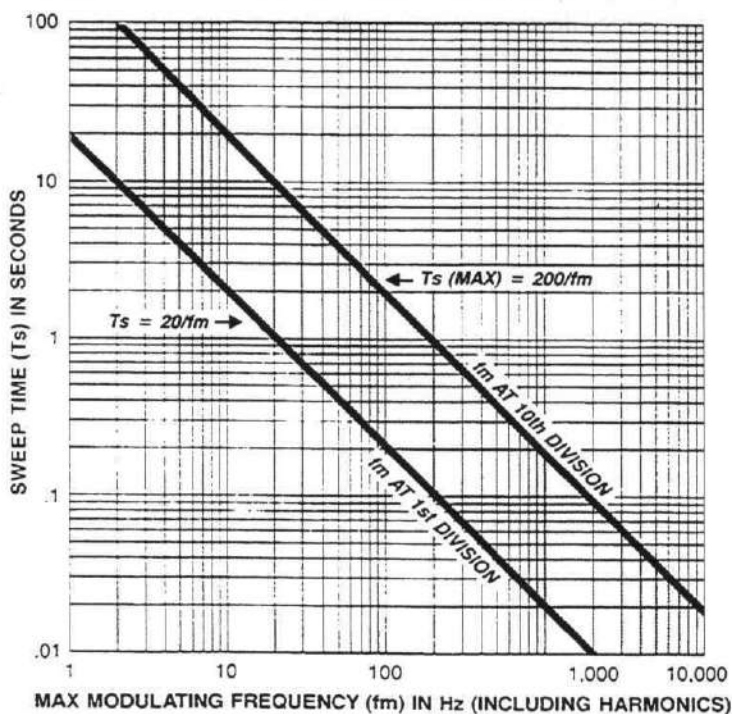

Figure 2-22
5. See Figure 2-22, which shows maximum modulation frequency ( $f_m$ ) in Hz versus sweep time ( $T_s$ ) in seconds. Set the sweep time less than  $T_s(\text{max})$  for that maximum modulation frequency ( $f_m$ ) including the harmonics of the signal. The upper curve relates the sweep time to the maximum modulation frequency that can be observed (that is, the modulation frequency represented by the right edge of the graticule). The lower curve represents the modulation frequency one division from the left side of the graticule.